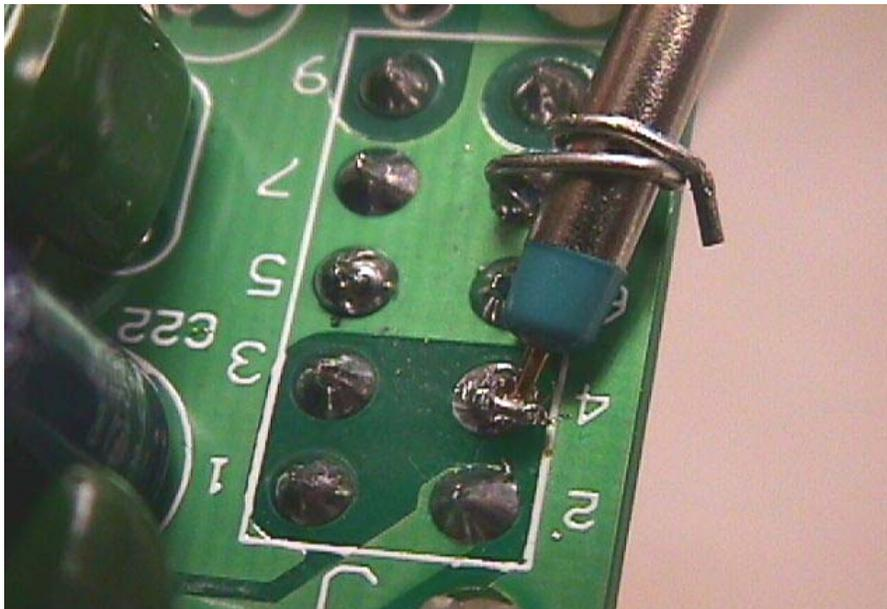

Figure 3: Probe connection example
- 4.6.4. If possible, remove the alligator clip ground from the probe and take a very small jumper from the ground of the PWB to the ground sheath of the probe (refer to Figure 3).